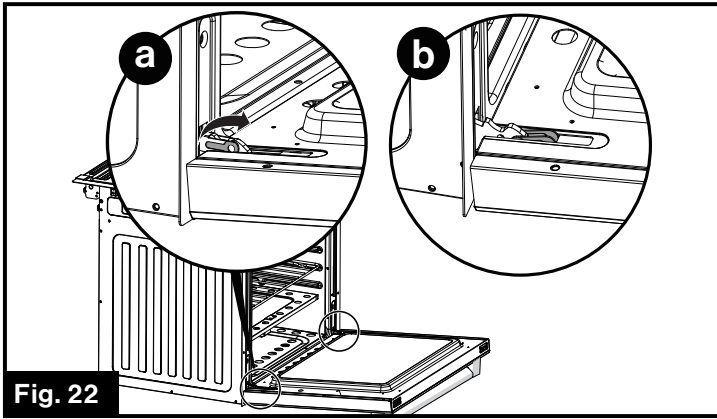

Fig. 22
- Flip levers on hinges (one on each side) toward you. (Fig. 22)